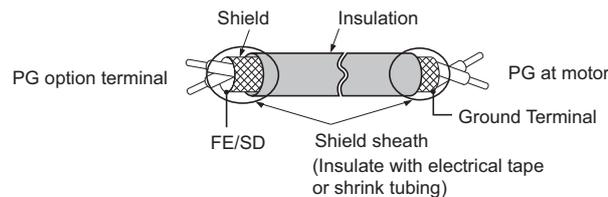
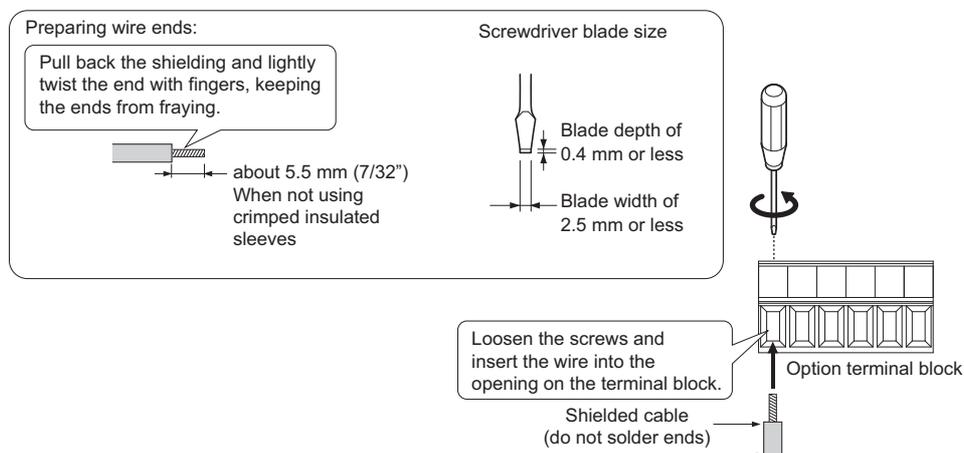

Figure 8.7 Preparing Ends of Shielded Cable
Figure 8.8 Preparing and Connecting Cable Wiring
2. There are two screw holes on the drive for use as ground terminals (H). When connecting three options, two ground wires will need to share the same drive ground terminal.
4. Prepare and connect the wire ends as shown in **Figure 8.7** and **Figure 8.8**. Refer to **Wire Gauges and Tightening Torques on page 432** to confirm that the proper tightening torque is applied to each terminal. Take particular precaution to ensure that each wire is properly connected and wire insulation is not accidentally pinched into electrical terminals.